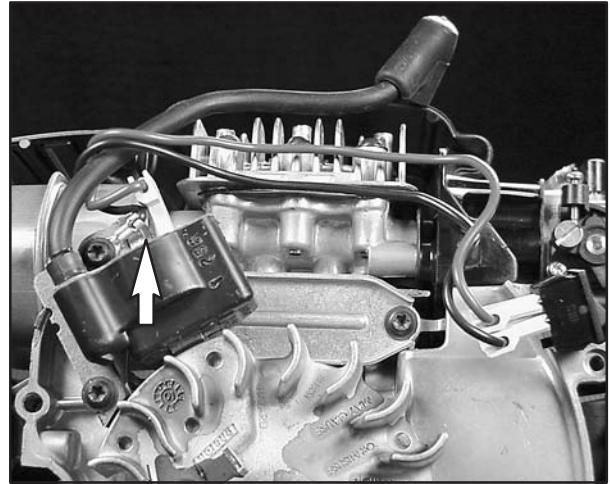

Fig. 18
**NOTE:** Route stop switch wires behind spark plug wire and then over spark plug as shown, Fig. 18.